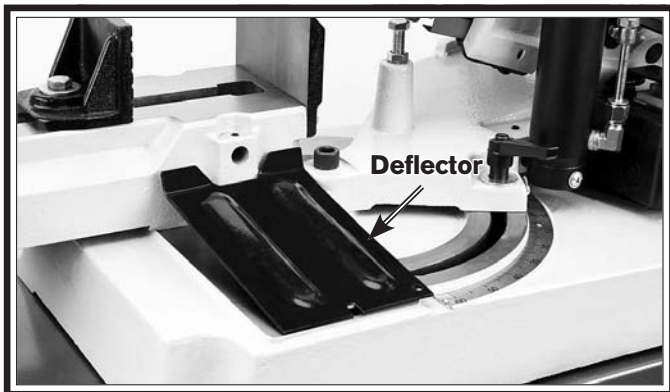

Figure 22. Chip tray installed.
17. If you choose to use the deflector, position it as shown in **Figure 22** (the deflector directs swarf from the cut and small workpieces into the chip tray when the cut is complete).